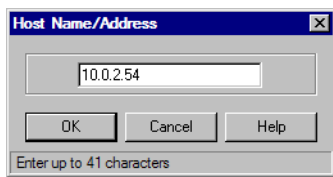

Figure 3-9. Host Name/Address Dialog Box
- a. Select an entry in the Reference Hosts list box and double-click, or click **Modify**. The Host Name/Address dialog box, shown in Figure 3-9, displays.